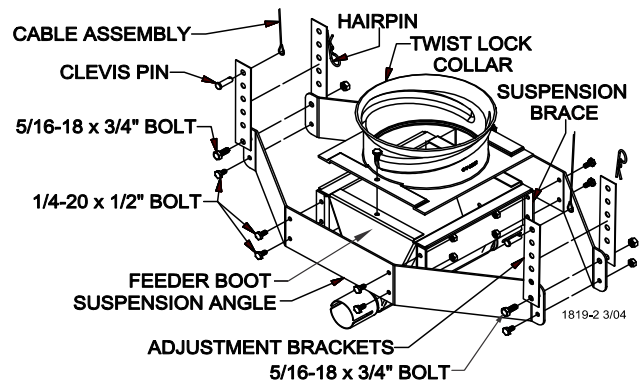

Figure 4. Hopper Assembly (Bottom)
5. Assemble suspension angles and suspension braces around feeder line boot (single or twin), using 1/4-20 x 1/2" Hex bolts and nuts (supplied in hardware package). See Figure 4.
6. Assemble the twist lock collar to the top of the feeder line boot (single or twin) using 1/4-20 x 1/2" bolts and lock nuts (supplied in hardware package). See Figure 4.
8. Two cable assemblies (cable with a sleeve clamp and a 5/32 thimble) are supplied with the suspension kit to support the hopper. Attach the cable assemblies to the adjustment brackets using the top holes of the adjustment brackets. See Figure 4.